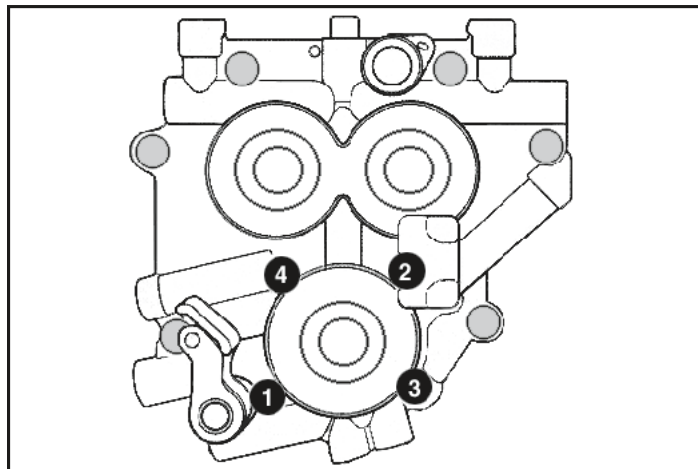

Figure 1
5. Following sequence shown in **Figure 1**, alternately loosen and remove oil pump bolts.
10. Install oil pump mounting bolts with a drop of blue thread locker according to procedure found in factory service manual: Gently bottom screws, then back them out 1/4 turn. Center oil pump by rotating engine by hand while snugging down screws. Alternately tighten bolts to 95 in-lbs. torque in sequence shown in **Figure 1 on Page 4**. Before proceeding with installation, verify that inner cams rotate freely and no binding is present.